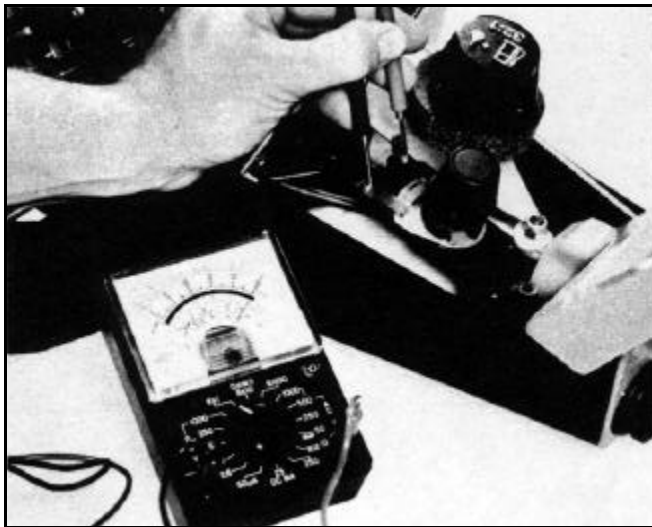

Figure 194
- Place one continuity light or volt/ohmmeter lead to each of the switches. The test instrument used should register continuity (Figure 194).